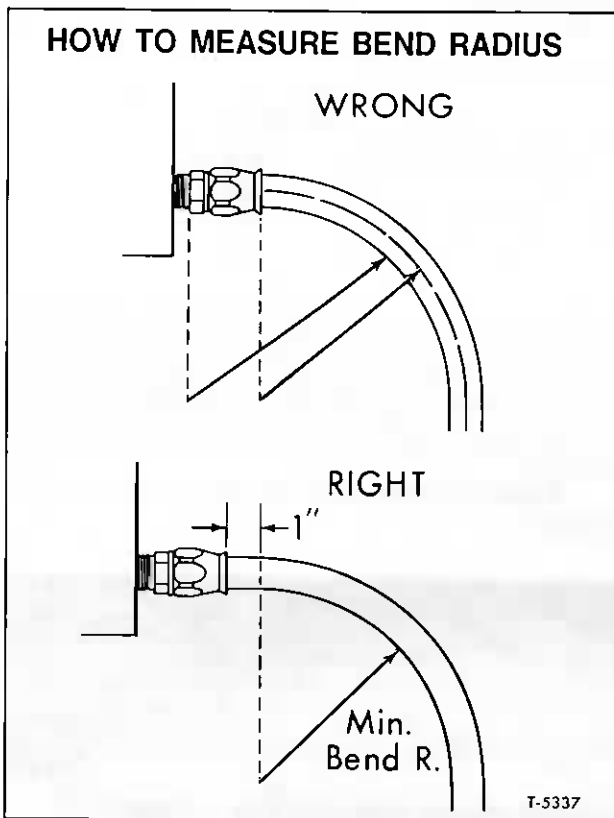

Figure 2—Installation of Teflon Hose to Ensure Proper Bend Radius
5. Do not exceed minimum bend radius during handling, storage, or installation. If the bend radius is exceeded, the hose will tend to flatten and kink. Having an adequate bend radius will help prevent collapsing of the line or restriction of flow as shown in figure 2.
6. When installing, the assembly should be positioned so that the flexible portion of the hose extends at least one and one-half times the hose diameter before the bend of the hose as shown in figure 2.